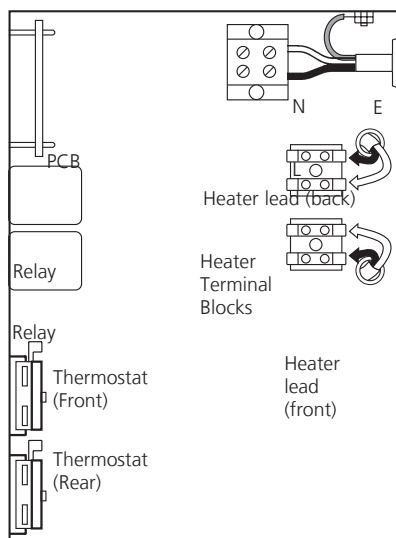

Fig. 2d
30. Pass the electrical cables of the heaters up into the electrical control compartment via the two orifices. Push the spade connections onto the heater terminal block. Brown to Brown, Blue to Blue (Fig. 2d).